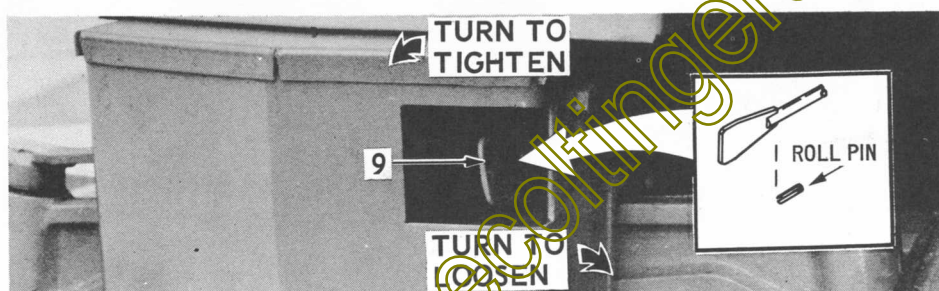

Figure 28
9. Place the attachment drive lever in the "ON" position. Turn the primary attachment drive belt adjustment (9) counterclockwise until the inside edge is in line with the outside end of the roll pin. See inset drawing on Figure 28.